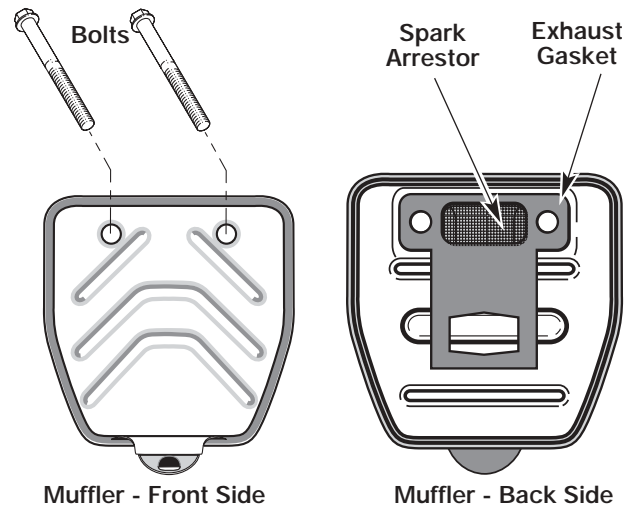

Figure 31
2. Locate muffler front and the two (2) bolts securing it to the engine. See Figure 31. Remove the two (2) bolts using a flatblade screwdriver or 5/16-inch socket or nut driver. Pull muffler off of the engine.
3. Turn muffler over to the back side and locate the exhaust gasket. Remove the muffler gasket from the muffler. See Figure 31.
7. Place the exhaust gasket against muffler's back side. Align the gasket bolt holes with the bolt holes in the muffler. While holding exhaust gasket in place, insert the bolts into the muffler's front side. See Figure 31.